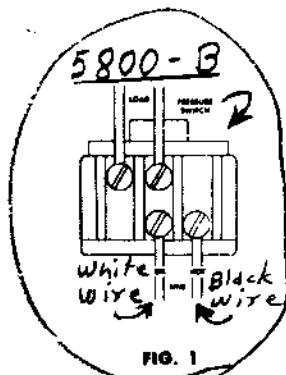
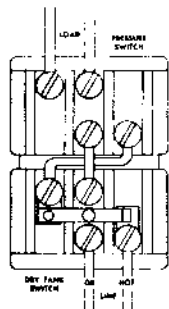

FIG. 1
FIG. 2
3. Attach power leads to switch as shown in Figure 1 for 5800-B or Figure 2 for 5850-B.